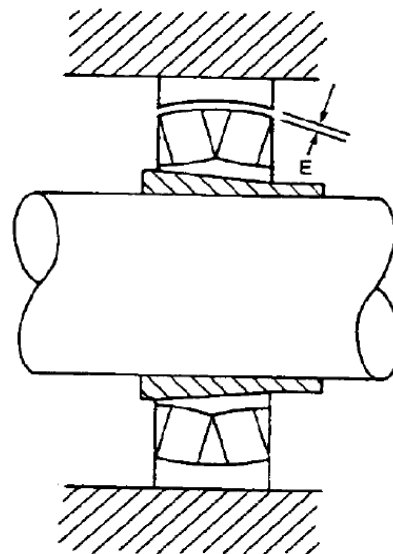

Figure 3.
- A) Proper tightening of the adapter is measured as a reduction in internal clearance in the bearing. The more the nut is tightened, the less internal clearance will exist in the bearing. Measure the internal clearance of the bearing prior to installation by using feeler gauges between the bearing rollers and the outer race (see Figure 3). The bearing outer race must be centered and the shims must pass over both sets of rollers to properly measure the internal clearance. Once the bearing is on the shaft and in proper position, the adapter may be tightened until the internal clearance is reduced by .0010" to .0015".